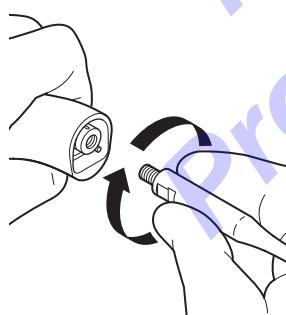

Figure 81 – Tip Installation
1. Manually install the tip into the handpiece finger tight (Figure 81).